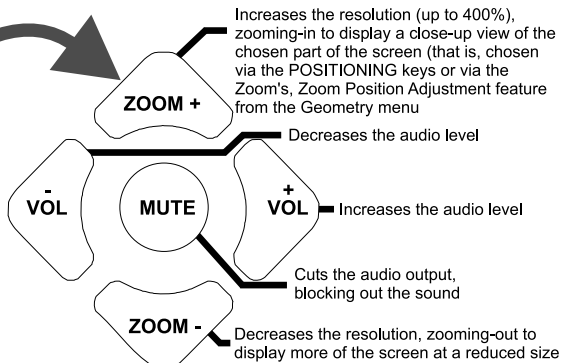
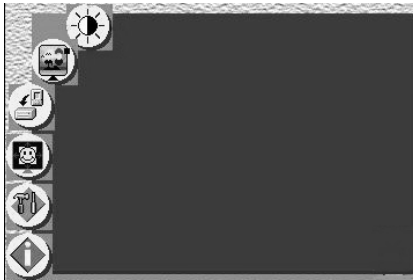
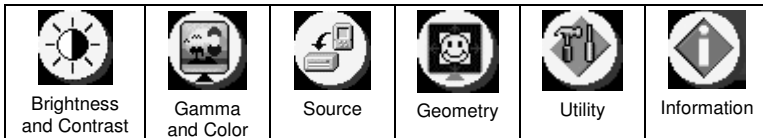

Figure 14: Infra-Red Remote Control Transmitter
Figure 15: MENU Screen
Figure 16: Menu Screen Icons
- Pressing the PIP key on the infra-red remote control transmitter (see section 7.4, Figure 14)
³ On the infra-red remote control transmitter to instantly move the position of the PIP window to up to nine preset fixed locations (see Figure 14). For example, to move to the lower right corner of the image, press the  button
- Press the SWAP key on the infra-red remote control transmitter (see Figure 14).
- When the PIP is enclosed by an orange frame, use the UP and/or DOWN navigation control keys on the infra-red remote control transmitter (see Figure 14) or the UP and/or DOWN front panel OSD buttons; otherwise
¹ On the machine, or the navigation control keys on the infra-red remote control transmitter (see Figure 14)
- Press the PANEL LOCK button or the MENU key on the infra-red remote control transmitter (see Figure 14) for a few seconds, until the “Key Lock On” OSD status appears superimposed over the top right corner of the screen for a few seconds², and all button LEDs turn off
- Press and hold the PANEL LOCK button or the MENU key on the infra-red remote control transmitter (see Figure 14) for a few seconds, until the “Key Lock Off” OSD status appears superimposed over the top right corner of the screen for a few seconds²
Figure 14 and Table 5 define³ the infra-red Remote Control Transmitter:
3 The illustration in Figure 14 shows an enlarged view of three separate parts of the infra-red remote control transmitter
2 Consists of a set of nine separate keys. See the illustration in Figure 14 which shows an enlarged view of this part of the infra-red remote control transmitter
5 As Figure 15 illustrates
7 Consists of a set of five separate keys. See the illustration in Figure 14 which shows an enlarged view of this part of the infra-red remote control transmitter
- Press the MENU front panel OSD button or the MENU key on the infra-red remote control transmitter (see Figure 14) to display the MENU screen (see Figure 15), which displays six interactive icons¹ (defined in Figure 16)